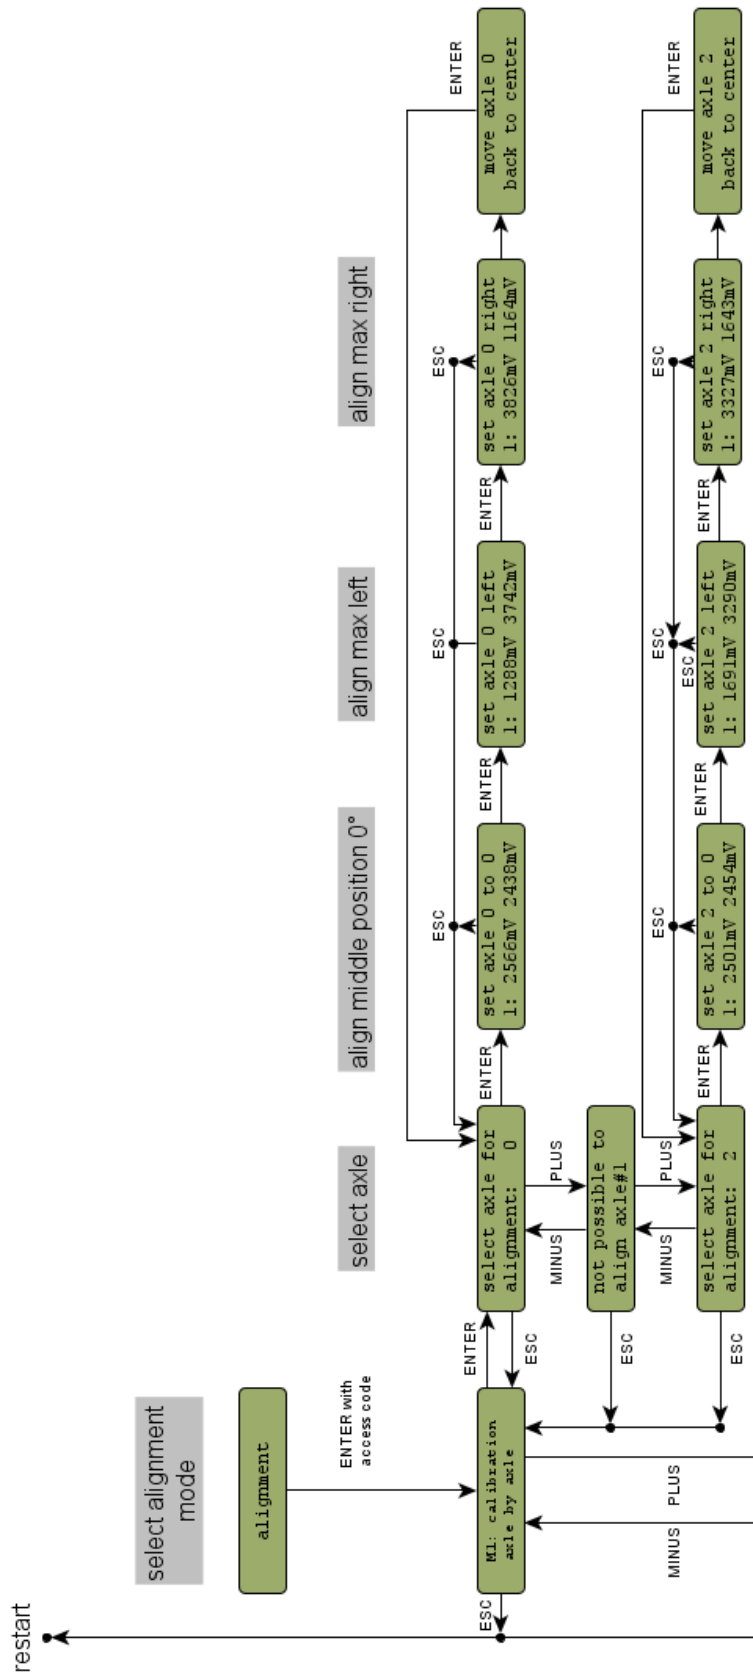

Figure 17-3 Alignment steps and screens control computer
5. Select the alignment method "M1 calibration, axle by axle", see Figure 17-3.